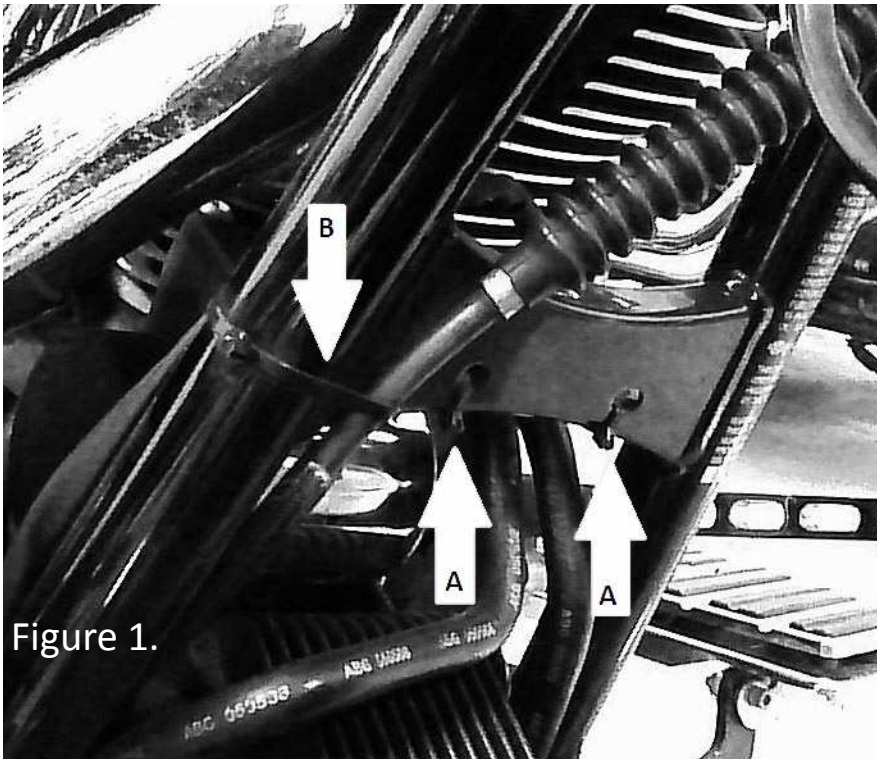

Figure 1.
1. Before installing cover you will first need to remove the existing plastic zip ties that hold the Oxygen Sensor Wires (Figure 1. A) and the Clutch Cable (Figure 1. B). Be sure to use a proper cutting tool and do so carefully as not to damage the cable or wires.